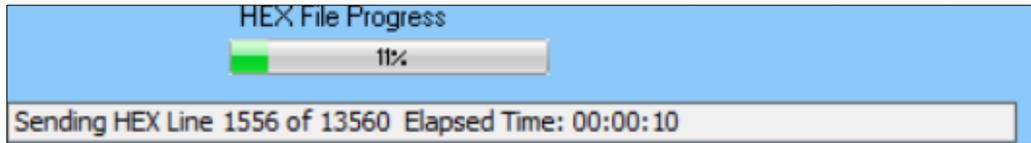

Figure 35: Hex File Progress
- Now left-click the **Program HEX** button in Step #3. The Hex File Progress will begin loading (see figure 35).